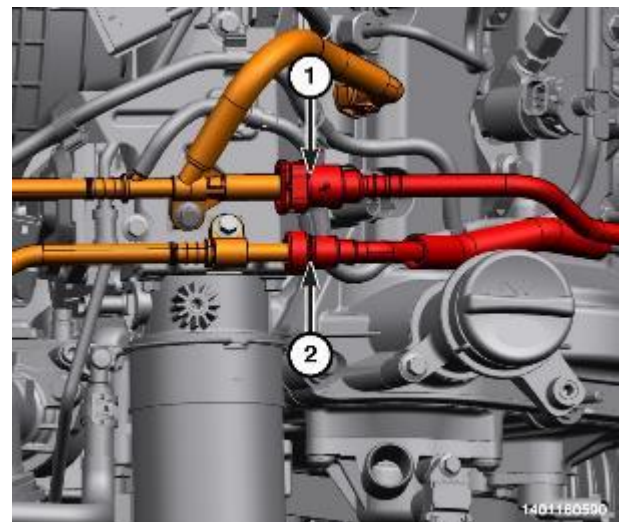

Figure 157 – Fuel Supply and Return Lines
- 21. Disconnect the fuel supply (2) and return (1) lines (Figure 157).